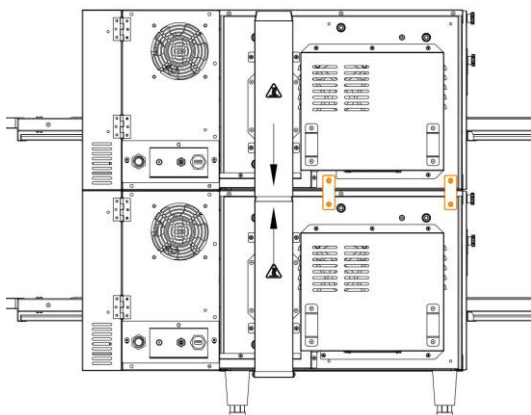

Figure 3
4. Before beginning operation, ensure the left and right side crumb trays are pushed in, and the extension plates are attached on both ends of the conveyor belt. **(fig. 3)**